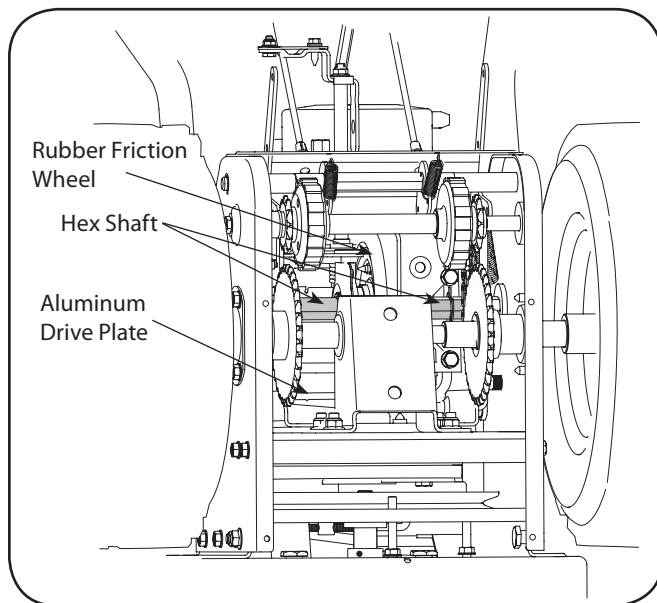

Figure 6-1
At least once a season or after every 25 hours of operation, remove rear cover. Lubricate all chains, sprockets, gears, bearings, shafts, and the shifting mechanism. Use engine oil or a spray lubricant. Refer to Figure 6-1.
3. Apply a light coating of engine oil (or 3-in-1 oil) to the hex shaft. See Fig. 6-1.